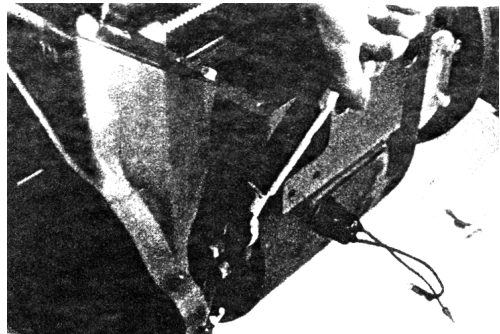

Fig. 3-25
d) Two mounting bolts should be tightened to a torque of 28.4-44N.m (2.9-4.5kgm) before tightening the stop screw at the end of the shaft arm (See Fig.3-25).